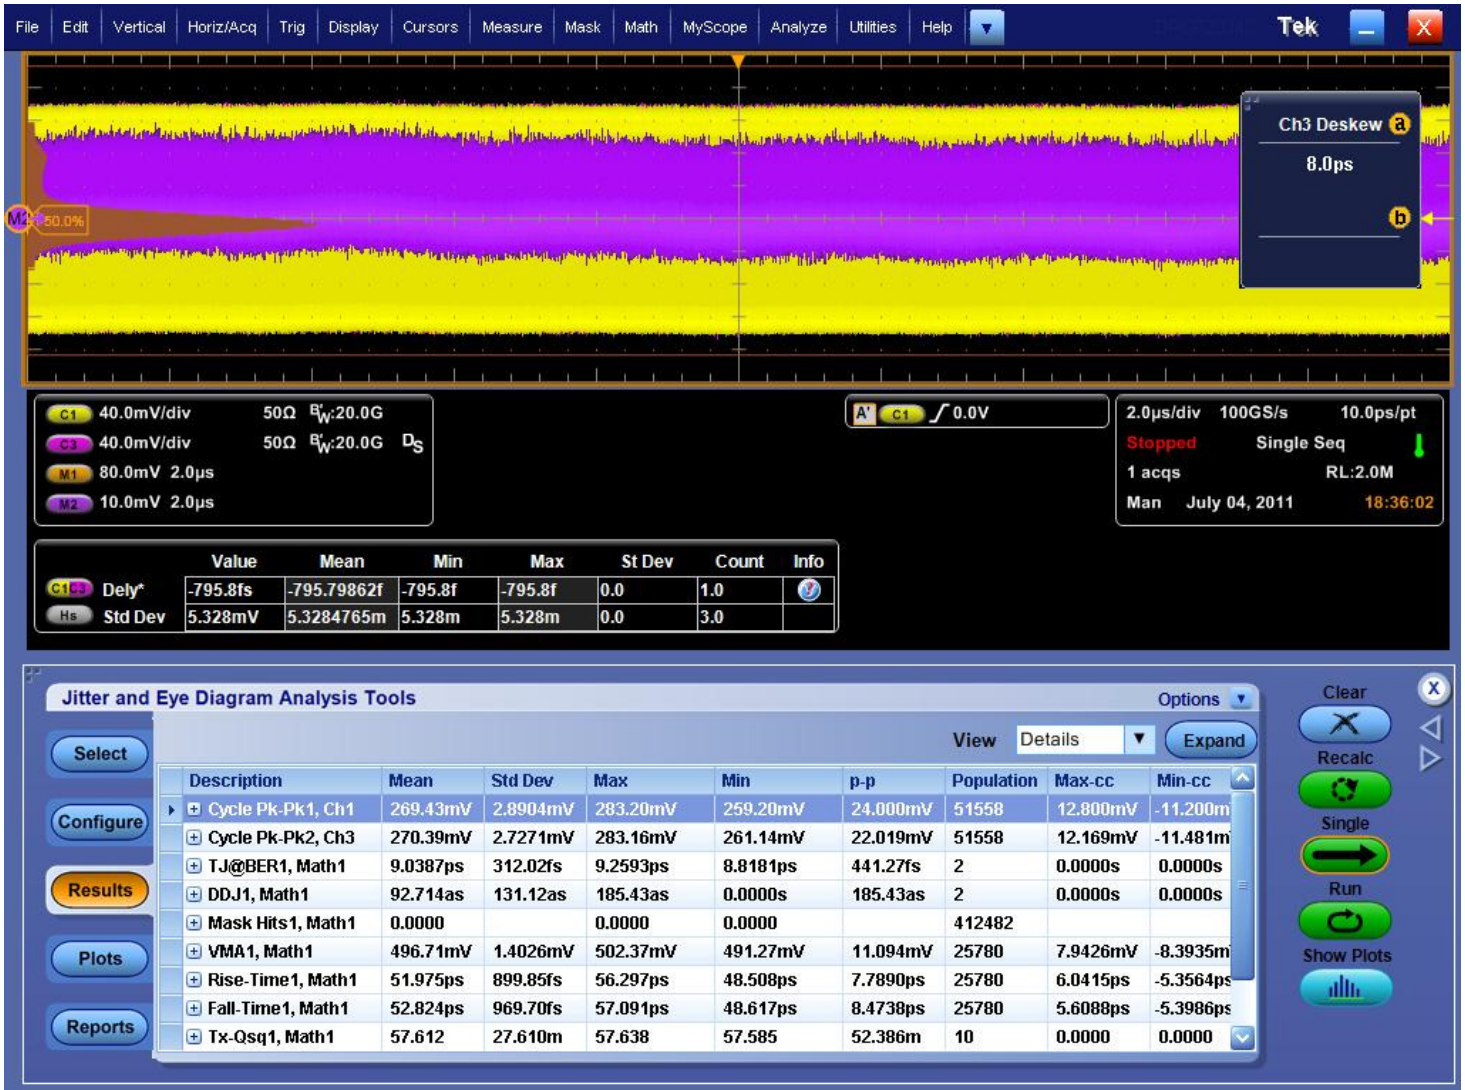

Figure 2. List of all measurements and results that are run with SFP+ QSFP+ Tx_PRBS9.set as example
6. Click on” Run” (or single) on DPOJET to run the measurement. (Refer to Figure 2)